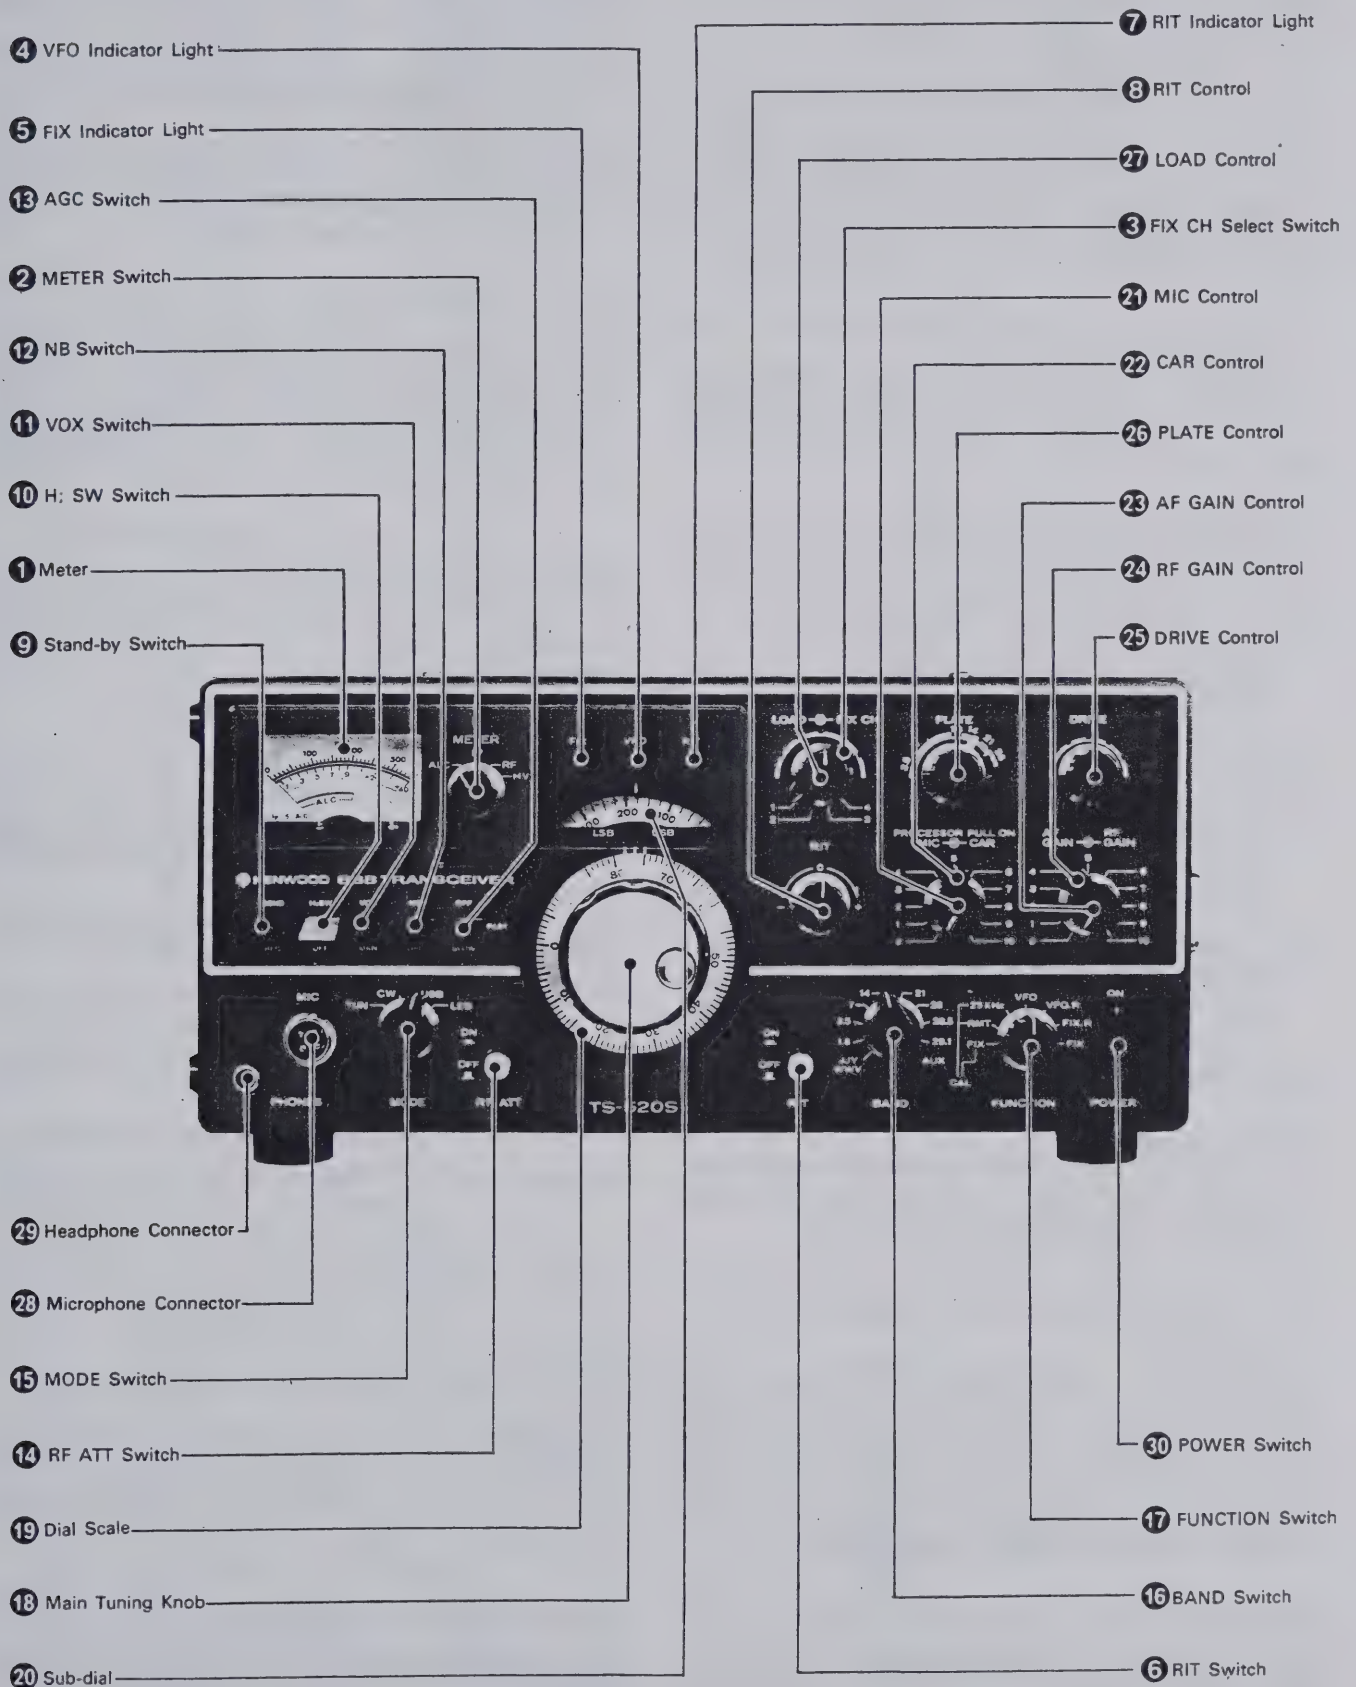

Fig. 5 Front Panel Controls
3.1 FRONT PANEL CONTROLS (See Figure 5)
■ METER (① on Figure 5)
■ METER SWITCH (② on Figure 5)
(③ on Figure 5)
■ VFO INDICATOR LIGHT (④ on Figure 5)
■ FIX (FIXED CHANNEL OPERATION) INDICATOR LIGHT (⑤ on Figure 5)
■ RIT SWITCH (⑥ on Figure 5)
■ RIT INDICATOR (⑦ on Figure 5)
■ RIT CONTROL (⑧ on Figure 5)
■ STAND-BY SWITCH (⑨ on Figure 5)
■ H. SW (Heater) SWITCH (⑩ on Figure 5)
■ VOX SWITCH (⑪ on Figure 5)
■ NB SWITCH (12 on Figure 5)
■ AGC SWITCH (13 on Figure 5)
■ RF ATT SWITCH (14 on Figure 5)
■ MODE SWITCH (15 on Figure 5)
■ BAND SWITCH (16 on Figure 5)
■ FUNCTION SWITCH (17 on Figure 5)
■ MAIN TUNING KNOB (18 on Figure 5)
■ DIAL SCALE (19 on Figure 5)
■ SUB-DIAL (20 on Figure 5)
■ MIC CONTROL (PROCESSOR PULL ON) (21 on Figure 5)
■ CAR CONTROL (22 on Figure 5)
■ AF GAIN CONTROL (23 on Figure 5)
■ RF GAIN CONTROL (24 on Figure 5)
■ DRIVE CONTROL (25 on Figure 5)
■ PLATE CONTROL (26 on Figure 5)
■ LOAD CONTROL (27 on Figure 5)
■ MIC CONNECTOR (28 on Figure 5)
■ PHONES JACK (29 on Figure 5)